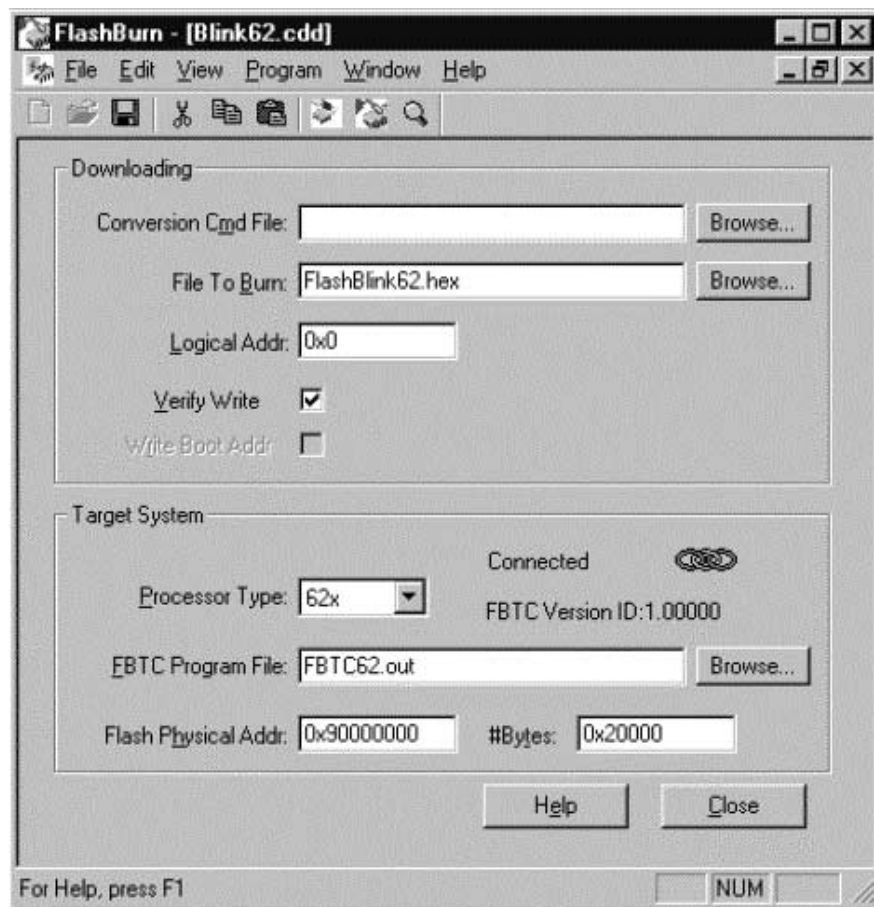

Figure 1. FlashBurn Document
- If the FBTC program is provided (see the **FBTC Program File** field in Figure 1), then the program is downloaded to the target system and started.
Only one document may be open at any time. Figure 1 below shows the user's view of the `Blink62.cdd` FlashBurn document. This document is designed for burning an example program into the flash memory of a 6211 DSK, starting at the beginning of the memory.
The lower field contains items that pertain to the target system's hardware. In this example, the processor type is 62x because the document was prepared for a 6211 DSK board. The physical address and size of the on-board flash memory are as shown in Figure 1.